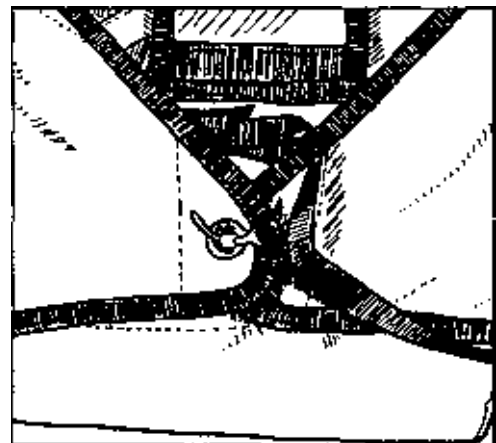

Figure 1
Step 5 Again, hold the loop in place and thread the pull-up cord through the #4 flap. Pull the flap into place and lock with the curved pin. Mate the yellow velcro on the bridle onto the velcro on the #1 flap. *Figure 1*